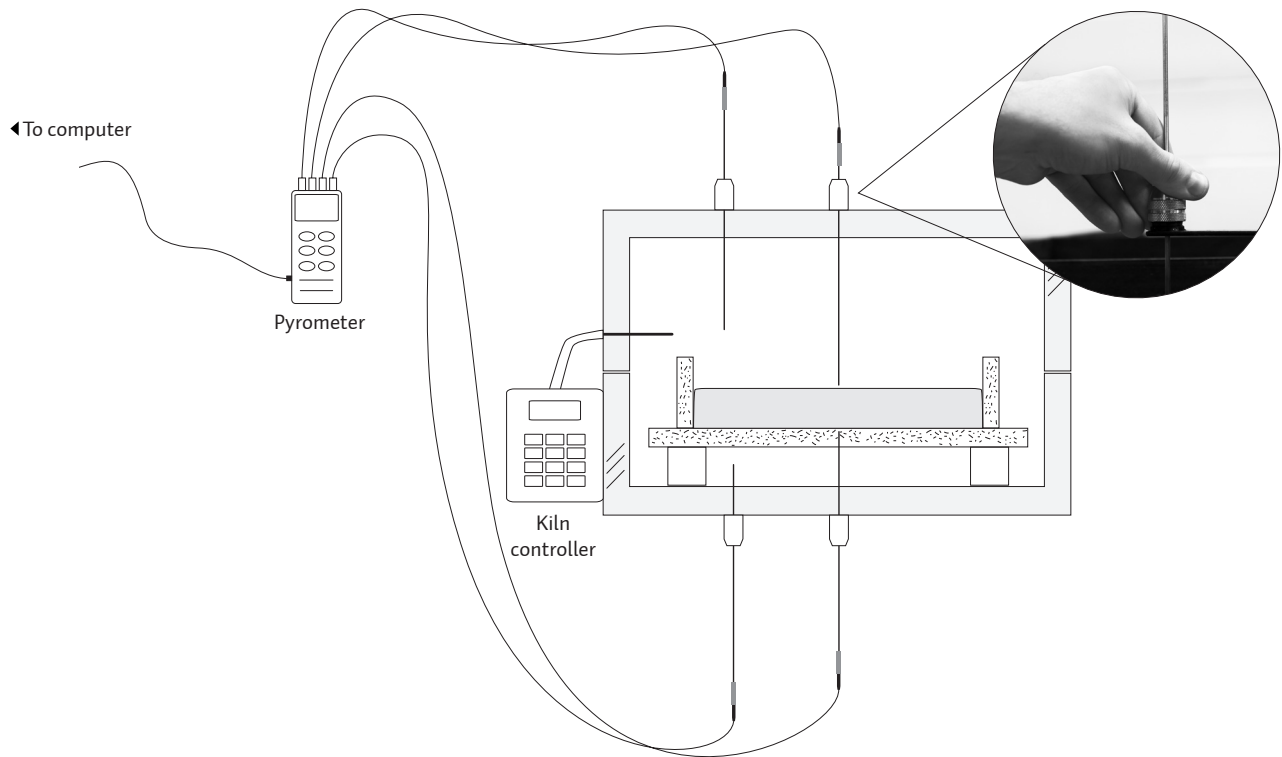

Figure 1: A multi-point monitoring system
Our multiple-point temperature monitoring system involves the use of thermocouples and a pyrometer. The pyrometer displays temperatures that are sensed by the thermocouples, which are placed at two or more locations within the kiln. (Figure 1)
For large slabs of glass, we use a minimum of 2 thermocouples—one above and one below the top and bottom surfaces of the glass. (Figure 1) We position the bottom thermocouple by drilling a small hole in both the bottom of the kiln and the kiln shelf. Then we thread the thermocouple from underneath until it is as close as possible to the bottom surface of the glass without actually touching it. To position the top thermocouple, we drill a hole in the top of the kiln directly above the bottom thermocouple. During firing, when the glass has reached the anneal soak temperature, we loosen the collet and lower the top thermocouple down until it contacts the now-rigid glass surface. This thermocouple then allows us to accurately monitor the temperature of the top surface of the glass.
For this process, we typically place one thermocouple above the shelf at the same height as the kiln’s control thermocouple and one below the shelf. (Figure 1) Data collected at these points can help to determine how well the kiln is firing and whether or not the control thermocouple is reading accurately. This data can also be used to establish different programs for the top and the bottom of the kiln—if they can be independently controlled—to ensure a uniform temperature within the glass.
- At Bullseye, we attach collets (keyless chucks, welded to small sheet metal plates) to the outside of the kiln, in line with the drilled holes. The collets can be hand tightened and loosened to secure the thermocouples and/or reposition them, as needed. (Figure 1)